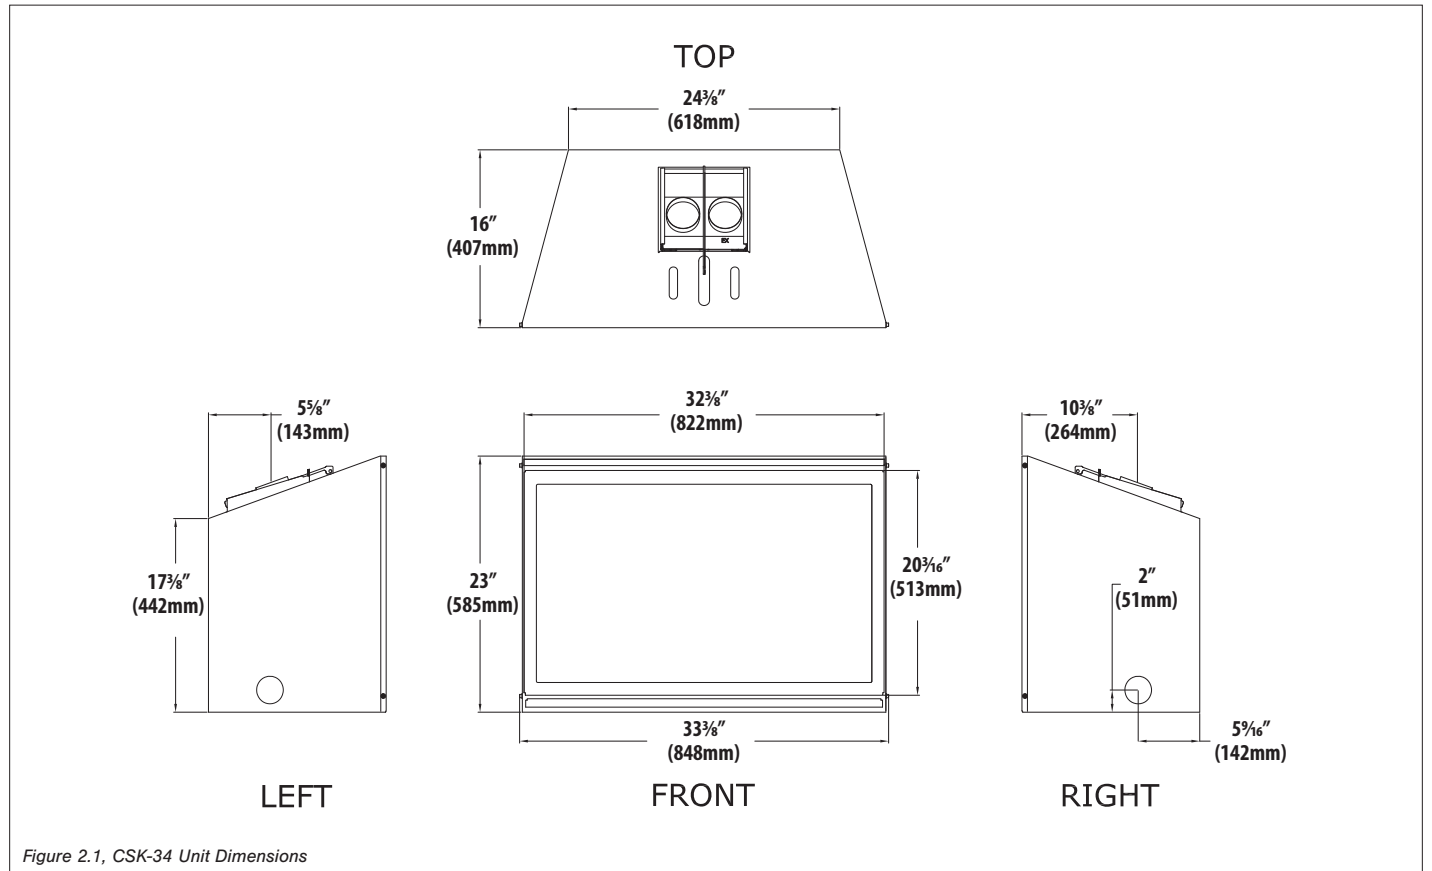

Figure 2.1, CSK-34 Unit Dimensions
- Refer to Section 2.3 Appliance Dimensions (Figure 2.1) on page 8 for electrical outlet box location to run any necessary electrical wiring to the gas fireplace insert.